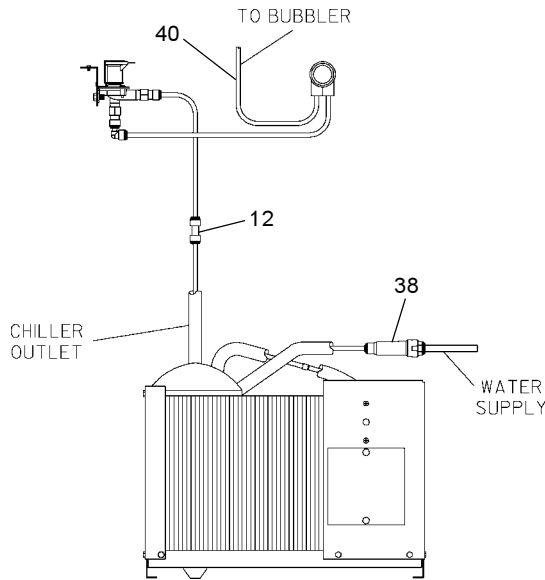

FIG. 4
5. **Place refrigeration package inside mounting box** and connect water outlet tube on refrigeration package to water in tube on regulator holder (Item 7) with tubing and fitting provided. See figure 4.